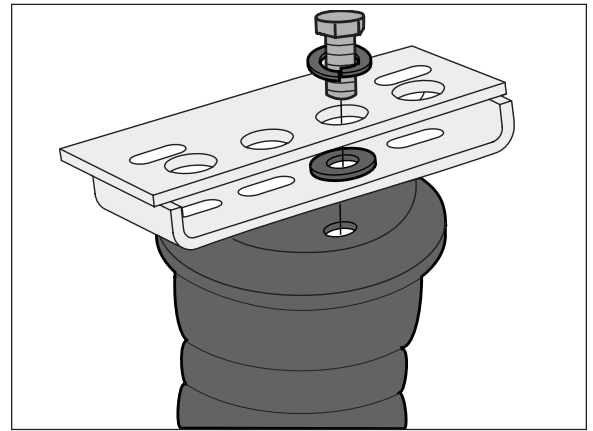

Fig. 5
Attach the upper brackets (C) to the air springs with two 3/8-24x7/8” hex head bolts (I), lockwashers (S) and flat washers (M). Leave loose at this time (Fig. 5).